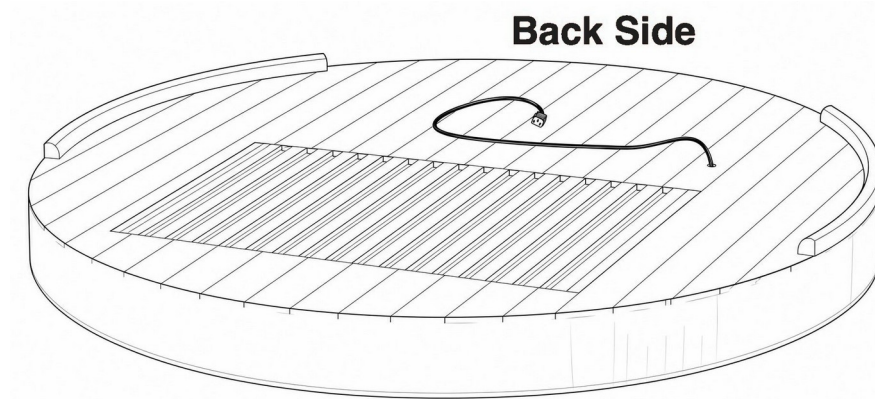

Figure 4. Floor Panel in position. The wooden quarter-round trim marks the back side; the front faces the 25 in door clearance.
- Identify the back side of the Floor Panel by the wooden quarter-round trim (Figure 4). Turn the Floor Panel so the trim faces the wall behind the sauna and the front faces your 25 in door clearance.
- Confirm the receptacle is within reach of the 11 ft power cord, which exits the top of the Back Panel (B) and runs down the back of the sauna, as described in Section 03.